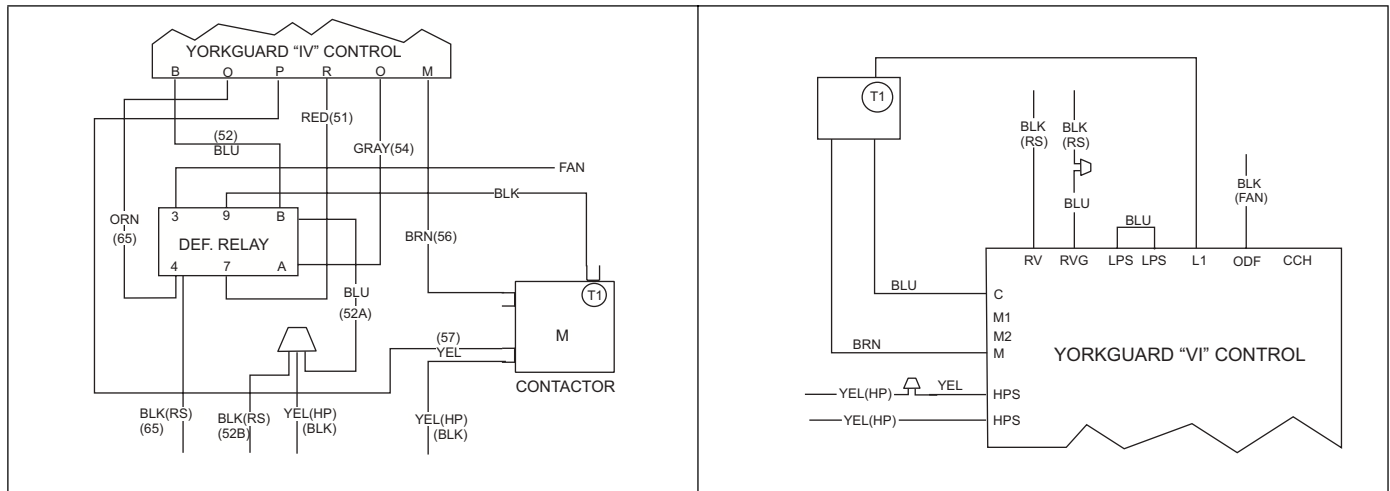

FIGURE 1: Wiring Connections for E*FH and E*EB
7. Re-wire per Figure 1 for E*FH and E*EB.
The control includes a TEST input connector that can be used for various testing functions during installation and service. The TEST input connector is shown in Figures 1 and 4. The following table summarizes the behavior of the control when the two TEST pins are connected. More detailed descriptions of the various functions are included in other sections of this document.
The control includes two LED's that display various types of diagnostic information. LED1 is red and LED2 is green. The location of the LED's is shown in Figures 1 and 4. These LED's are used to display operational mode, status, and fault information.